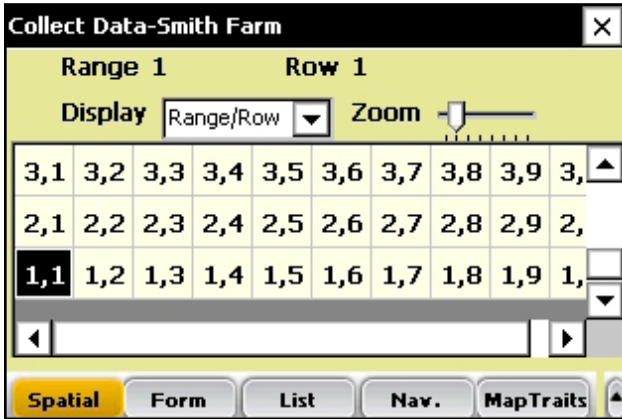

Figure 6-3: Row 1, Range 5 is selected in the Collect Data Spatial screen
8. Choose the starting plot location by tapping on the cell. In Figure 6-3, the selected cell is Range 1, Row 1. After you tap on the starting plot cell, the screen shows the combine's current location in the field and which plots have already been harvested.